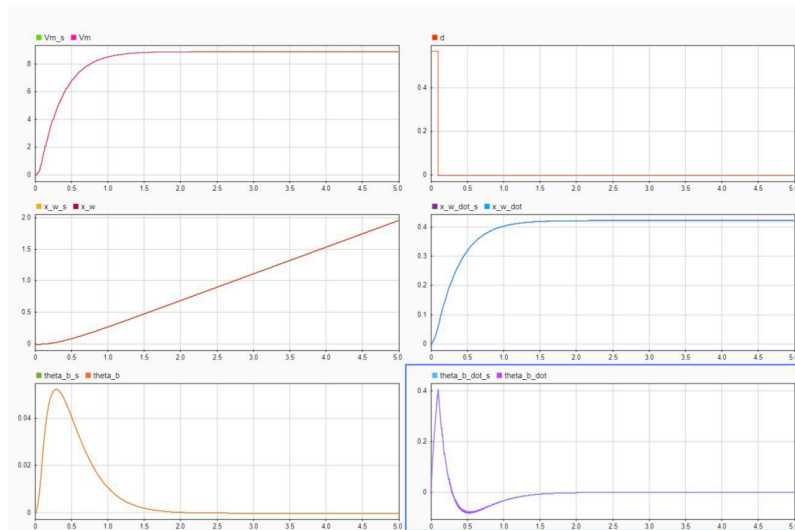

Figure 4: Discrete signals for task 4.9
2. The plot of $\theta_b(t)$, $x_w(t)$, $v_m(t)$, and $d(t)$ are shown in Figure4